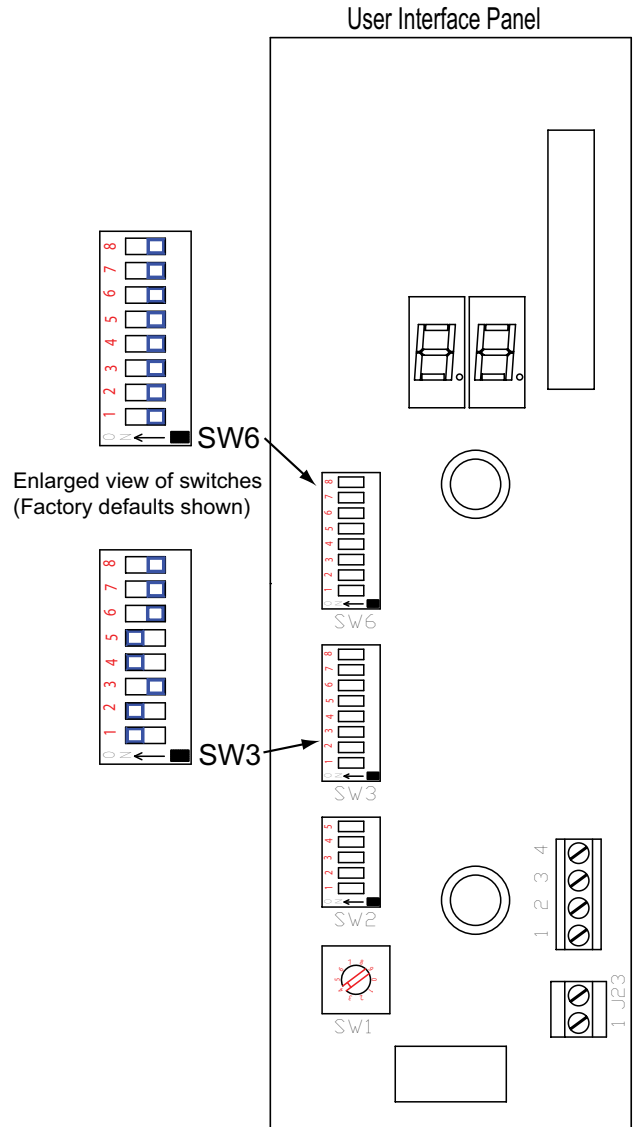

Figure 4: *EcoVFC* Factory Switch Settings
- Configuration switches are factory set for PMA VS2 in gasoline, mechanical leak detectors, extended run active, and stand-alone operation as detailed below in Figure 4. If you are using a different configuration see the Option Select section of this manual.
10. To make changes to the configuration switches SW3 and SW6 (See *Figure 4*), make sure power supply is locked and tagged out, then remove the two screws from the plastic shield covering the User interface board. Set all DIP switches as desired per the details below.